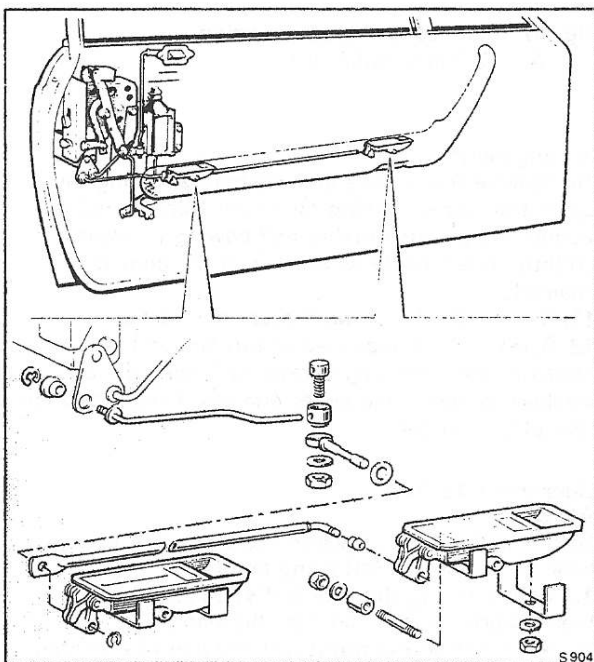

Fig. S8 Interior door handles (Camargue)
7. Remove the nuts and washers securing the arm rest/door pull. Withdraw the arm rest/door pull to gain access to the link connecting the interior handle mechanism to the lock mechanism. Slacken the lock-nut on the link rod clamping bolt, disconnect the link and remove the arm rest/door pull (see Fig. S8).
#### Interior door handles - To remove (see Fig. S8)
#### Interior door handles - To fit (see Fig. S8)